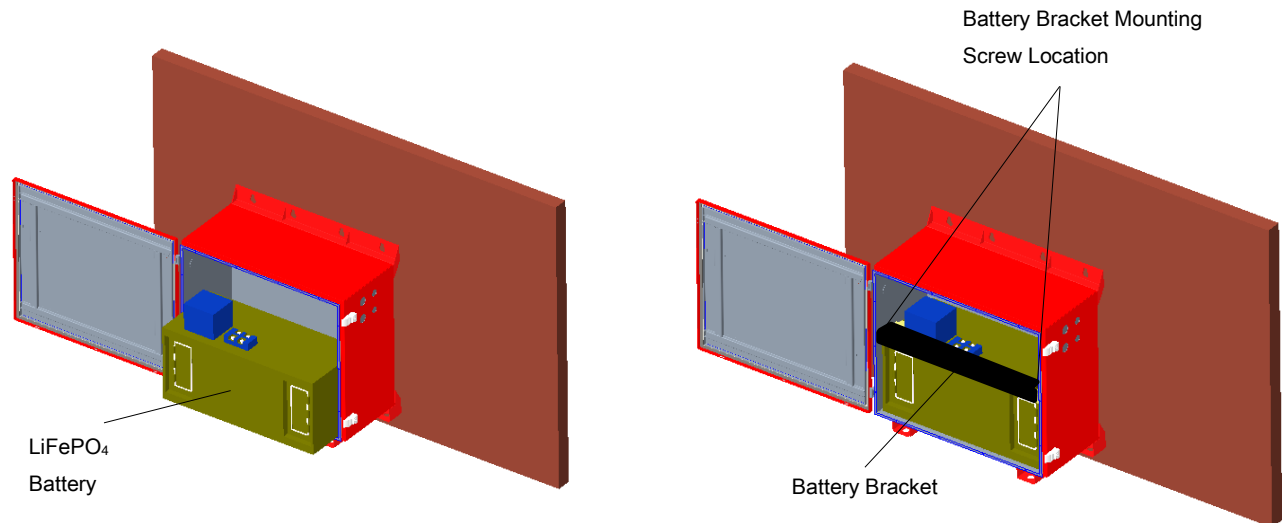

Figure 39: Battery Installation and Retaining Bracket
- Install the LiFePO4 battery into the BBU cabinet as shown in Figure 39. This step may require two people. Gently slide the battery assembly into position.
- Install the battery retaining bracket and secure with 4 x M6 Screws as shown in Figure 39.